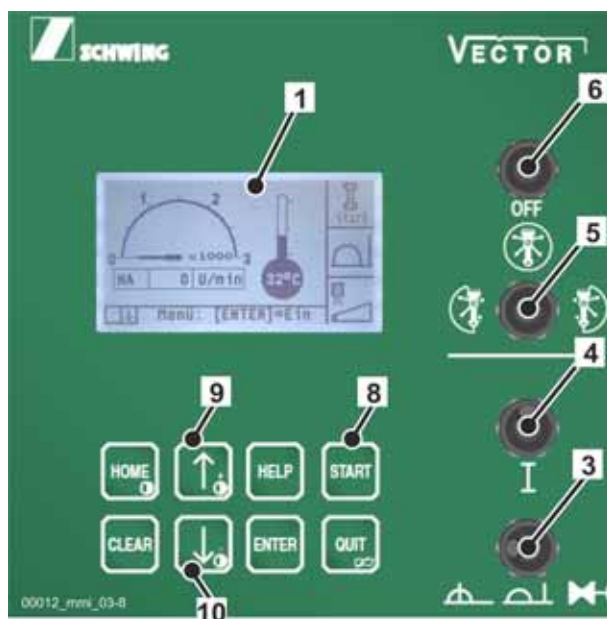

Fig. 554
1. If selector switch (5) (**Fig. 554**) is actuated while an outrigger is engaged on one side, the display will show the following message: